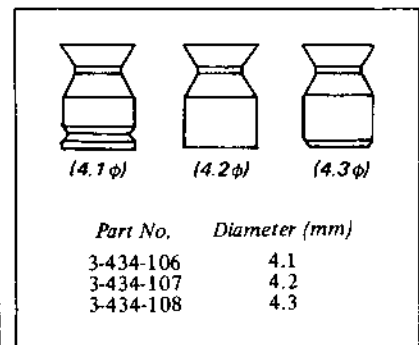

Fig. 4-2 Motor pulleys
4. Three kinds of motor pulley. See Fig. 4-2.
4. Three kinds of motor pulley are available for precise speed adjustment as shown in Fig. 4-2.